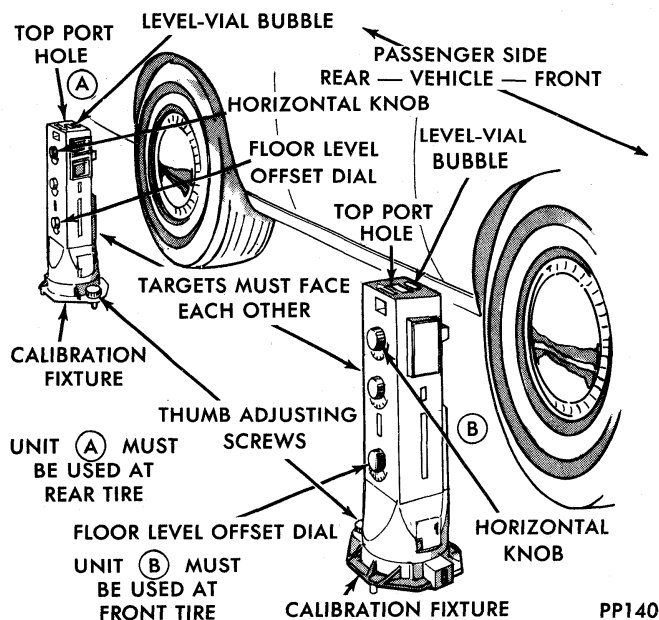

Fig. 1—Determining Floor Slope
(1) Attach one calibration fixture to each aimer. Fixtures will easily snap into position on aimer when properly positioned (Fig. 1).
(2) Place aimers at centerline of each wheel on one side of vehicle (Fig. 1). Unit A must be placed at rear wheel with target facing forward. Unit B must be placed at front wheel with target facing rearward.
(3) Adjust thumb adjusting screw on each calibration fixture by turning either clockwise or counter-
clockwise until level vial bubble registers in a centered, level position (Fig. 1).
(4) Set floor level dial at zero (Fig. 1).